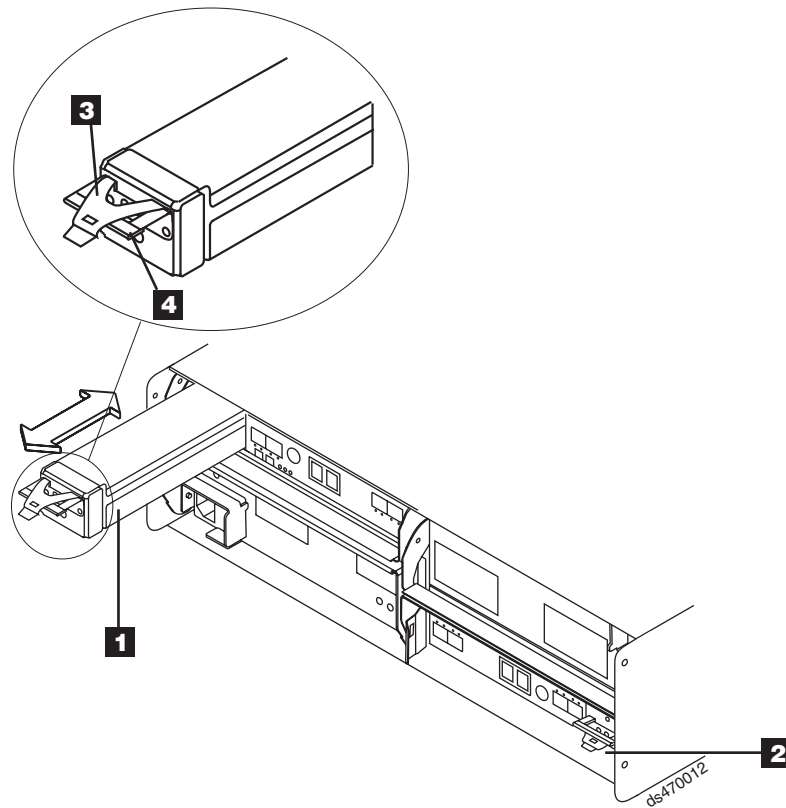

Figure 79. Removing and replacing a battery unit from the controller chassis
5. To remove the failed battery unit from the RAID controller, press the battery unit latch (the coral colored tab **3**) toward the black colored battery pull handle (**4**) to unlatch the battery from the DS4200 Express chassis and slowly pull the battery unit from the controller chassis using the black handle, as shown in Figure 79 on page 129.